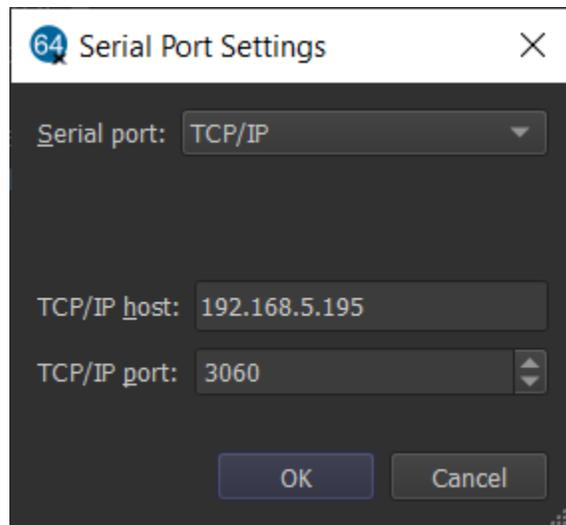

Figure 107: TheSky's Serial Port Settings window.
2. Highlight **Mount**, then click the **Mount Setup** pop-up, **Settings** to display the **Serial Port Settings** window (Figure 107).